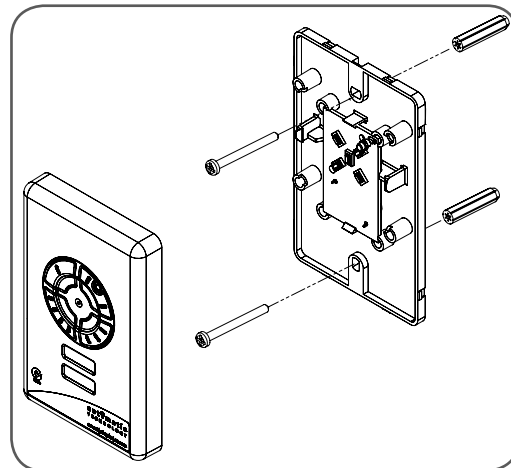

fig 35
- Affix the baseplate in a convenient wall location that is out of reach of children and convenient to the customer (**Fig.35**). Make sure the door is visible from this location.